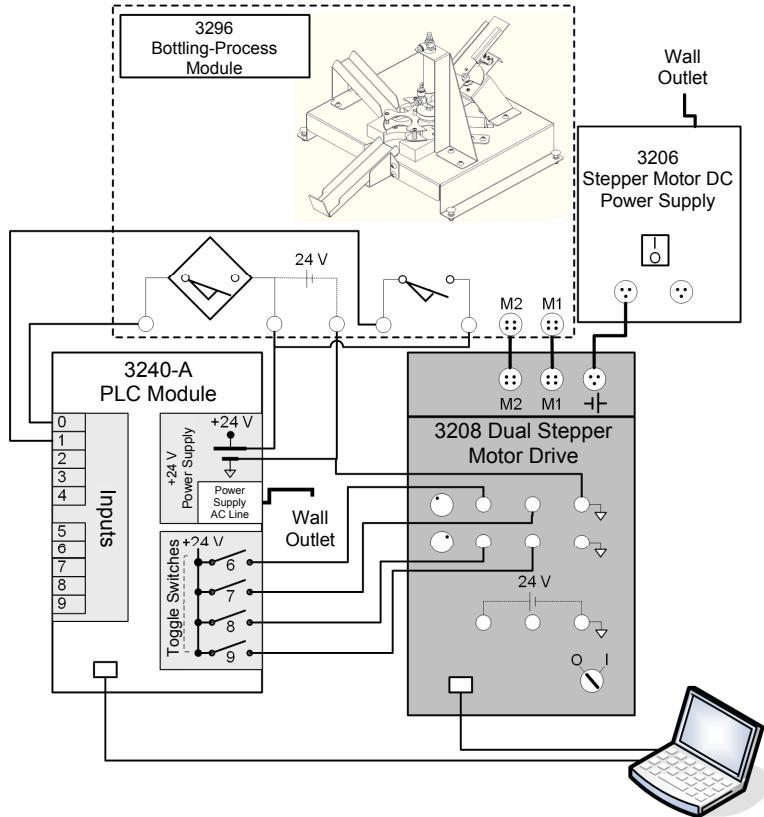

Figure 15. Station control valve test circuit.
- Connect the Bottling-Process Training System according to Figure 15. All toggle switches must be turned off (down position). No bottle or cap must be present in the system at this time.